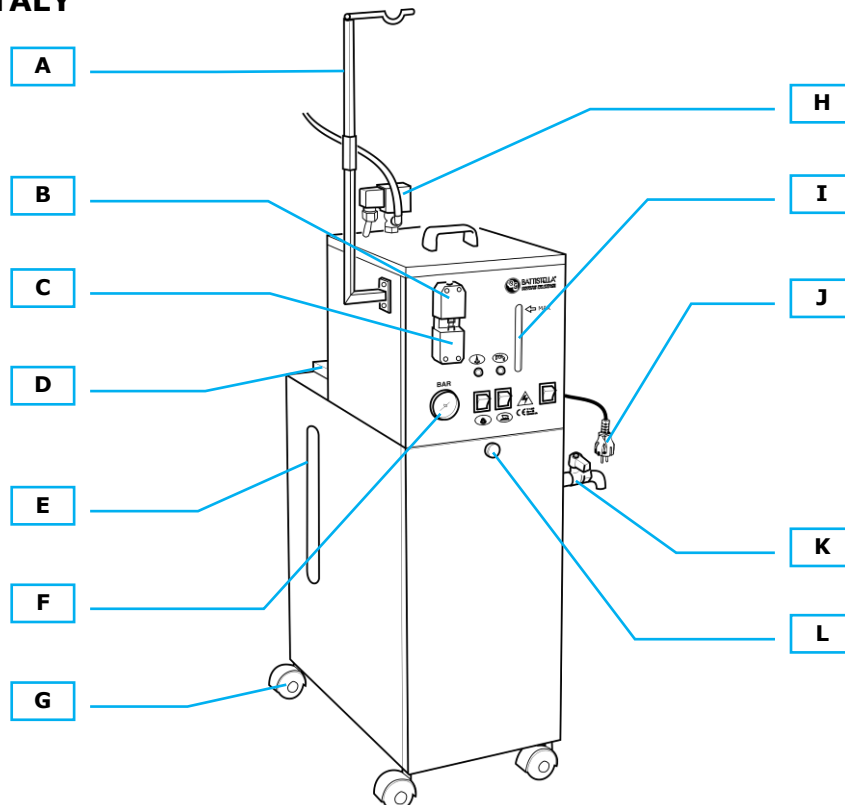
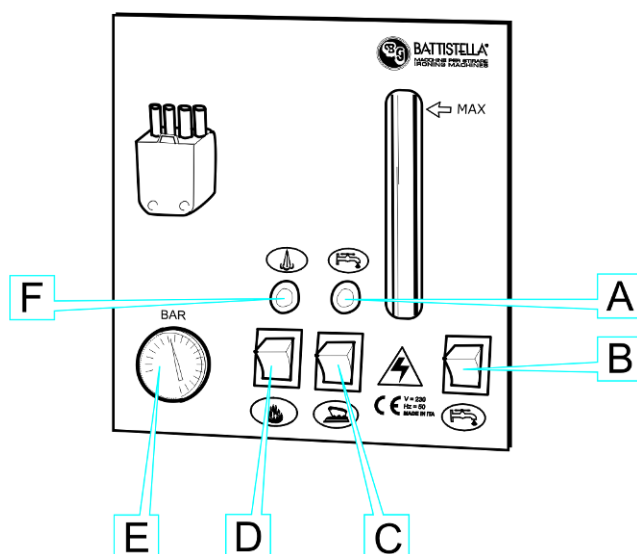
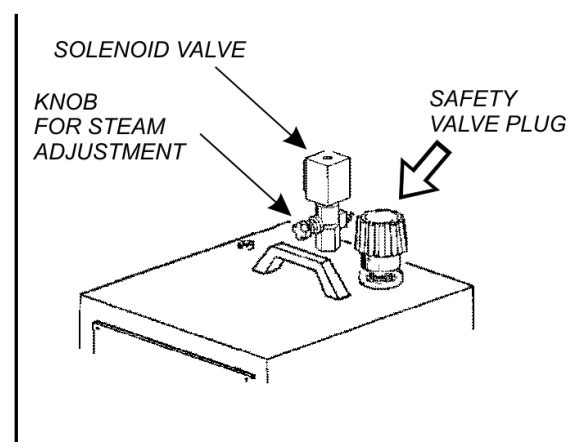
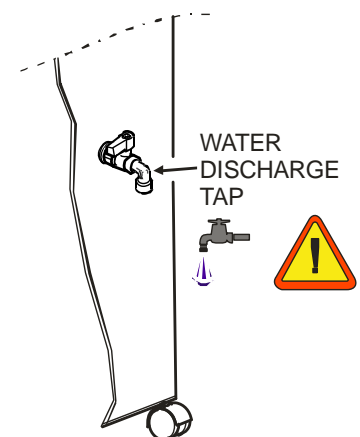

Fig. 1
Fig. 2
Fig. 3
Fig. 7
2. Unscrew the safety valve cap from the machine (fig. 3), fill the boiler only with the desired amount of water. Screw the plug back on from the top, taking care not to tighten it too much otherwise the gasket will be damaged (see chapter "BOILER REFILL").
4. Turn on the boiler switch (fig. 2 D). **N.B.: it is recommended not to exceed the MAX indication in the level glass (fig. 1 I) and to pay attention that the boiler discharge cock is closed (fig. 7).**
6. Wait for the boiler light to go off (fig. 2 F); the pressure gauge must indicate approximately 4 bar (fig. 2 E). At this point, press the micro-switch (fig. 4) 4-5 times, releasing the steam. You must also make sure that the steam is well saturated. You can also adjust the desired amount of steam by turning the steam adjustment knob located in the solenoid valve. Once the operation has been completed, the machine is ready to be used. During use, the boiler light turns on and off continuously, a sign of normal operation (fig. 2 F).
7. **To sanitize** by using the alcohol and water solution it is necessary to turn on the tank switch (fig. 2 B); this way the sanitizer liquid is mixed with the steam and the machine is ready to sanitize garments and / or surfaces.
USE OF STEAM ONLY MODE: follow the operations from point 2 to point 6. Make sure that the switch in fig. 2 B is in position 0 to deactivate the mixing of the sanitizer liquid with the steam. Only "pure" steam will come out of the accessories, without the sanitizer liquid.
4. Never replace the valve plug (fig. 3) with other types of plugs. **N.B. the safety valve cap is set at 5 bar and acts as a safety valve.**
4. During ironing it is recommended to place the iron only on the special rubber iron rest (fig. 1).
When you notice that the steam flow is significantly reduced and then ends permanently, it means that there is no more water in the boiler. Total water depletion is signaled by the light switching on (fig. 2 A).
Screw the valve cap back on (fig. 3), reinsert the plug into the socket and wait until the boiler light goes off (fig. 2 F).
Remove the valve cap and open the boiler drain cock (fig. 7), wait for all the water to come out and finally close the boiler drain cock. It may happen that the drain cock gets clogged: in this case, take an iron wire with a diameter of 3-4 mm or similar and introduce it into the duct to unclog it.